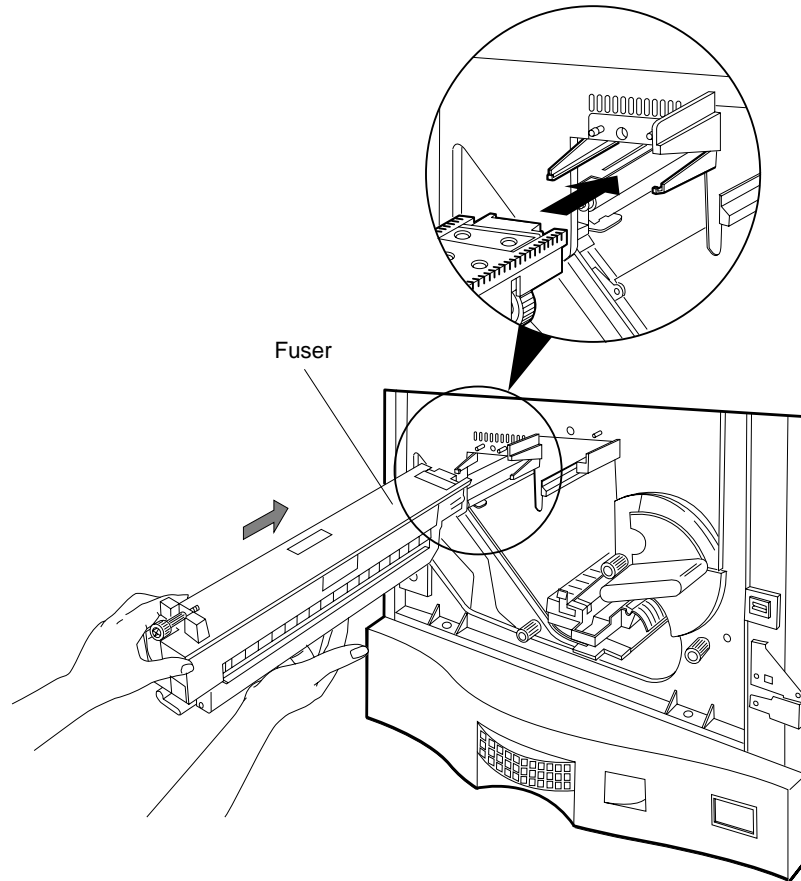

Figure 4-36 Installing the Fuser
2. Place the fuser's leading edge into the guides, then push the fuser into the printer until it stops, as shown in Figure 4-36.